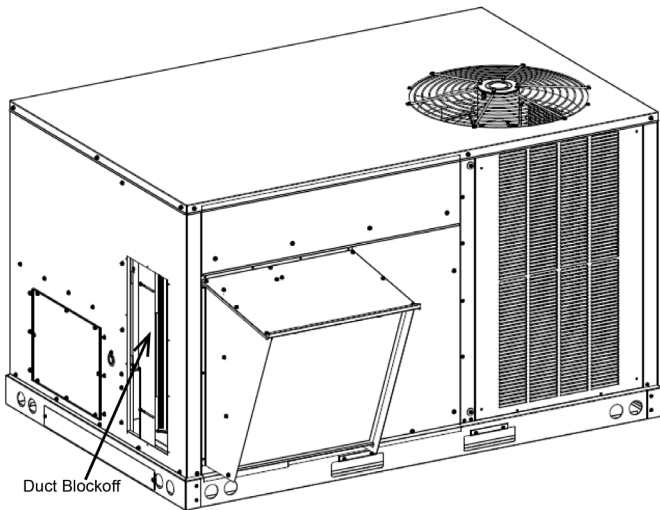

FIGURE 9 - FULLY ASSEMBLED ECONOMIZER
- With economizer fully installed, loosen the duct blockoff and slide it toward the filter rack to minimize air by-pass (see Figure 9).